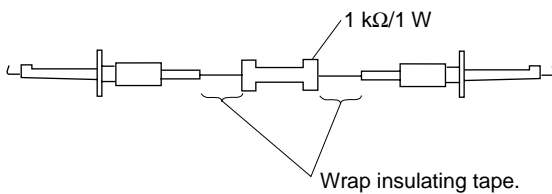

Fig. 5-1-4
2. Fabricate the discharging jig as shown in Fig. 5-1-4 locally by yourself. Connect the discharging jig to the positive (+) and negative (–) terminal of the flash voltage charge capacitor. Allow ten seconds to discharge the voltage.